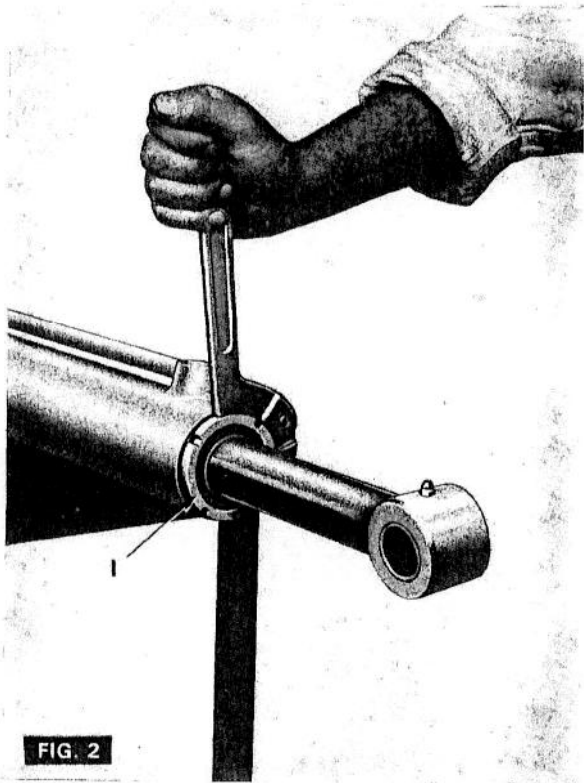

FIG. 2
3. (Fig. 2) With a 'C' Spanner, turn the bearing nut (1) in an anti-clockwise direction, remove and pull to the end of the piston rod.